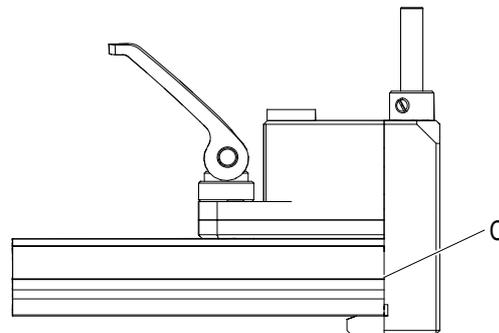

Fig. 108: Data rail (8) lays against rail stop (C)
- Drill the 2 holes (8) into the data rail (see Fig. 108). The drill holes are deburred during the drilling process.
→ Slide the data rail (8) up to the rail stop (C) (see Fig. 108).